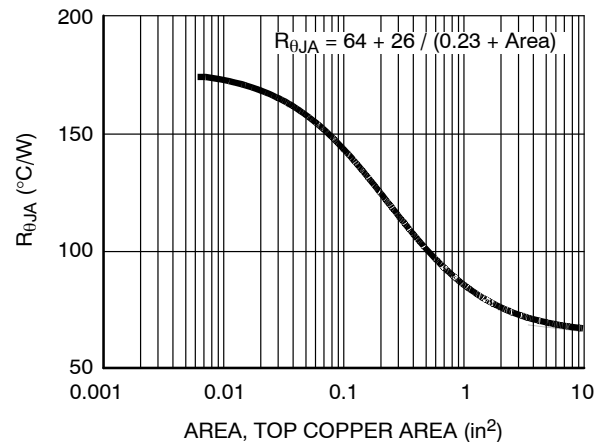

Figure 21. Thermal Resistance vs. Mounting Pad Area
**onsemi** provides thermal information to assist the designer's preliminary application evaluation. Figure 21 defines the  $R_{\theta JA}$  for the device as a function of the top copper (component side) area. This is for a horizontally positioned FR-4 board with 1 oz copper after 1000 seconds of steady state power with no air flow. This graph provides the necessary information for calculation of the steady state junction temperature or power dissipation. Pulse applications can be evaluated using the **onsemi** device Spice thermal model or manually utilizing the normalized maximum transient thermal impedance curve.
Thermal resistances corresponding to other copper areas can be obtained from Figure 21 or by calculation using Equation 2. The area, in square inches is the top copper area including the gate and source pads.